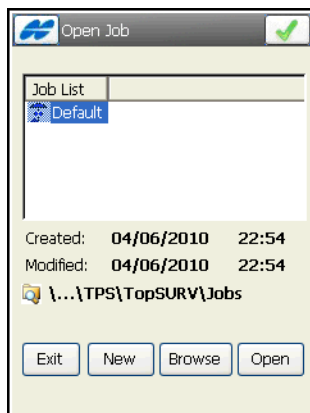

Figure 1-3. Open Job
Initially, TopSURV opens only a Default job created upon program installation (Figure 1-3). On the *Open Job* screen do the following:
- To open a job created in a previous version of TopSURV, tap the icons **Job ▶ Open Job**, then tap the **Browse** button in the **Open Job** screen (Figure 1-3 on page 1-3). Select the *Ts6 Job Files* (\*.tsv) type and navigate to the desired TSV job.